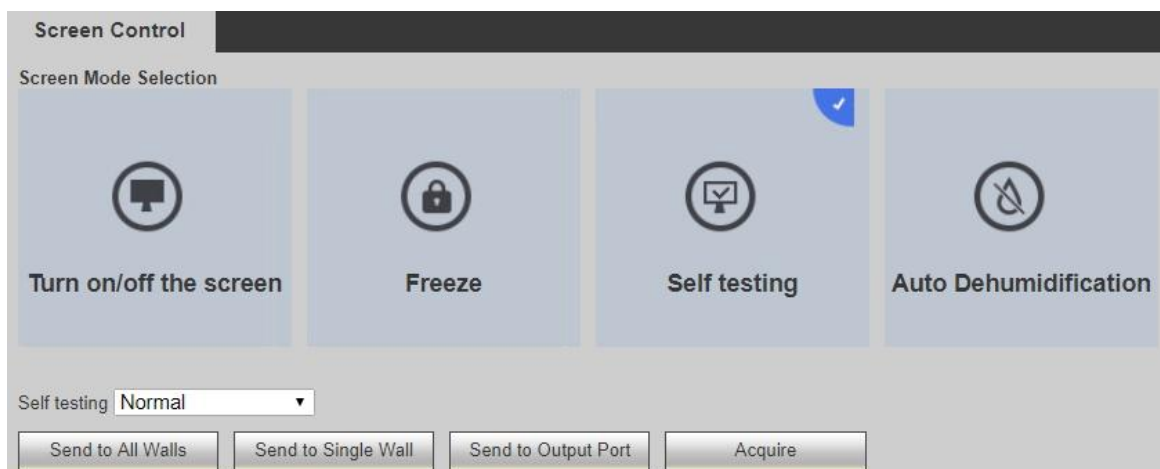

Figure 3-92
Step 1 Select "Self-testing", as shown in Figure 3-92.